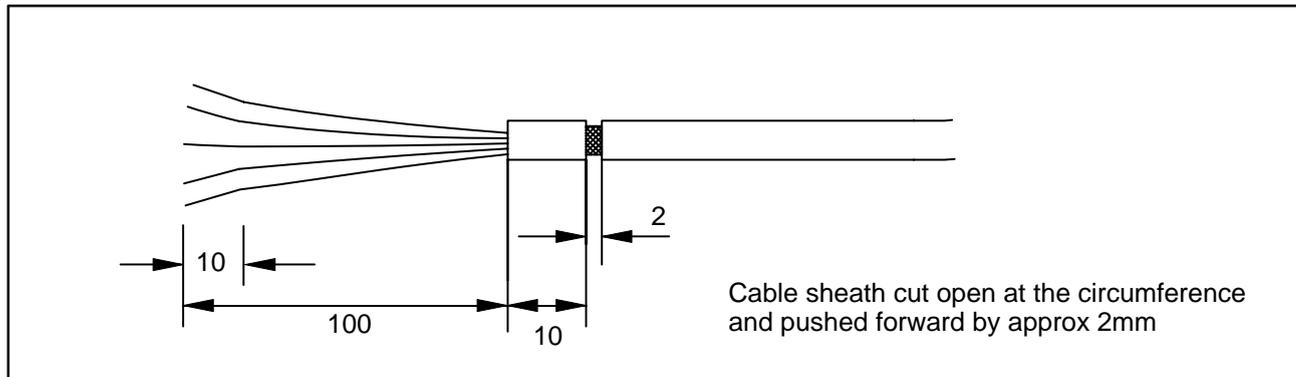

Fig. 6.1: Slit cable sheath
1. You can get to the screen through a slit in the cable sheath (see Fig. 6.1).